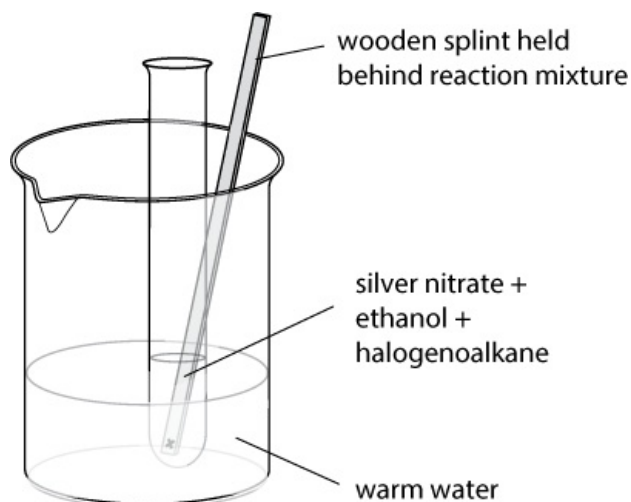

Figure 9.3: Hydrolysis of a halogenoalkane
- c Carry out the process for the **tertiary halogenoalkane**. Figure 9.3 shows the apparatus set-up.